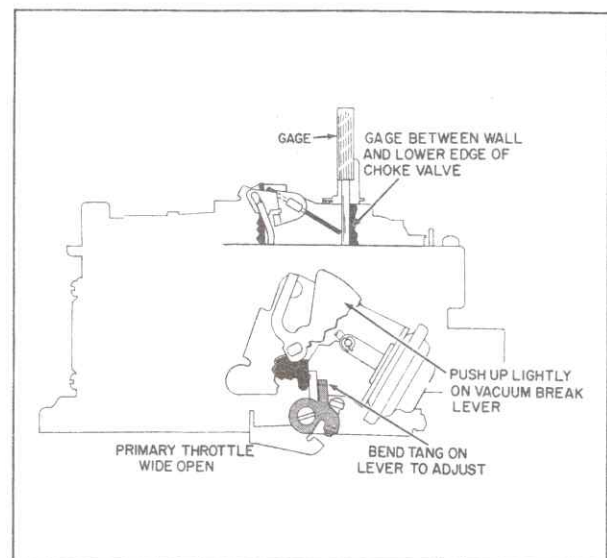

Fig. 6-99 Unloader Adjustment
### 82. Unloader Adjustment (Fig. 6-99)
3. Bend tang on fast idle lever, Fig. 6-99, to adjust.